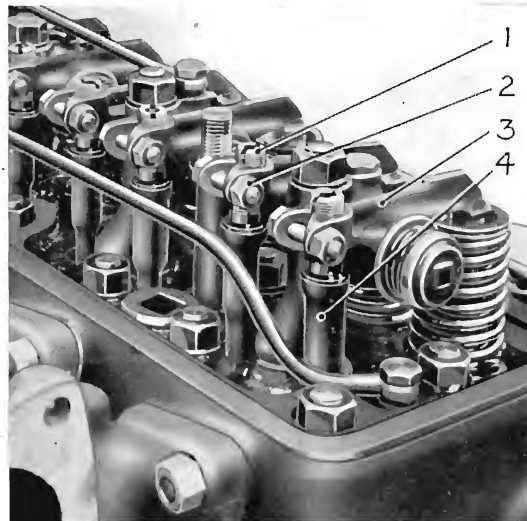

Fig. 5.
The adjusting screw (1), Fig. 5, secured in the end of the rocker by a clamp bolt (2) has a ball
Slacken the clamp bolt (2), Fig. 5, adjust the screw to give the necessary clearance, then lock the clamp bolt. The correct clearances are .020 in. for inlet and .020 in. for exhaust with engine cold.